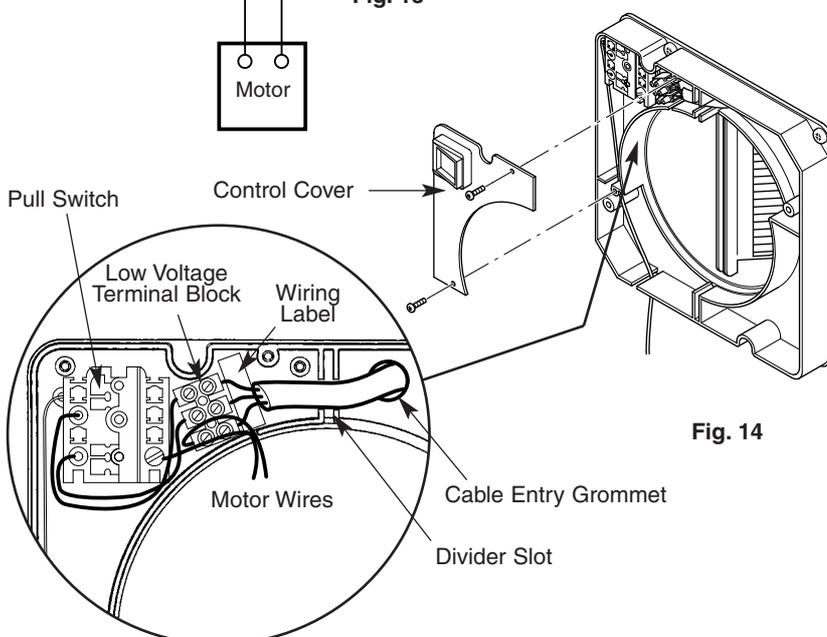

Fig. 14
9. Pass the low voltage cable through the cable entry grommet at the top of the unit (Fig. 14).
11. Remove the control cover by undoing the two retaining screws (Fig. 14).
14. Ensure that the low voltage cable is routed through the divider slot (Fig. 14).